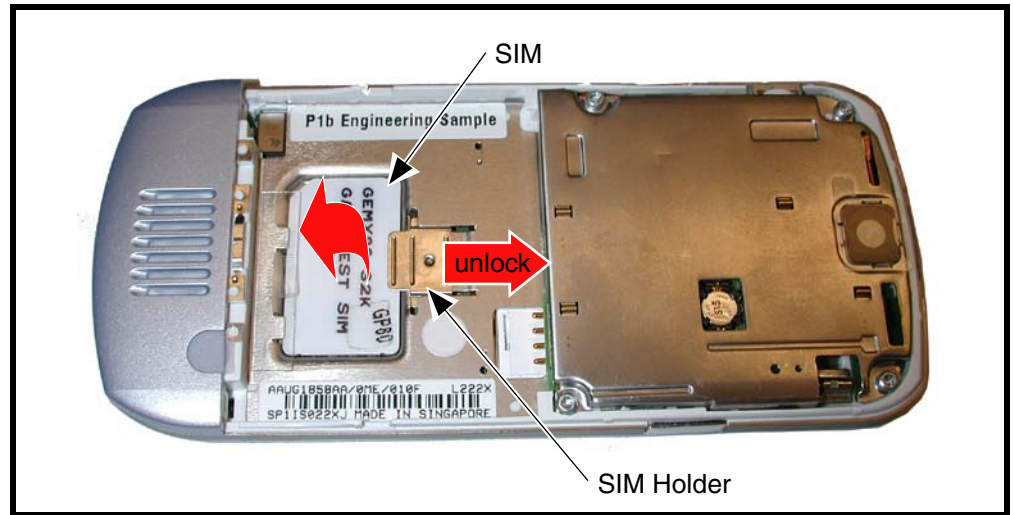

Figure 6. Removing and Replacing the SIM
3. Lift up the SIM and remove it from the phone (see Figure 6).